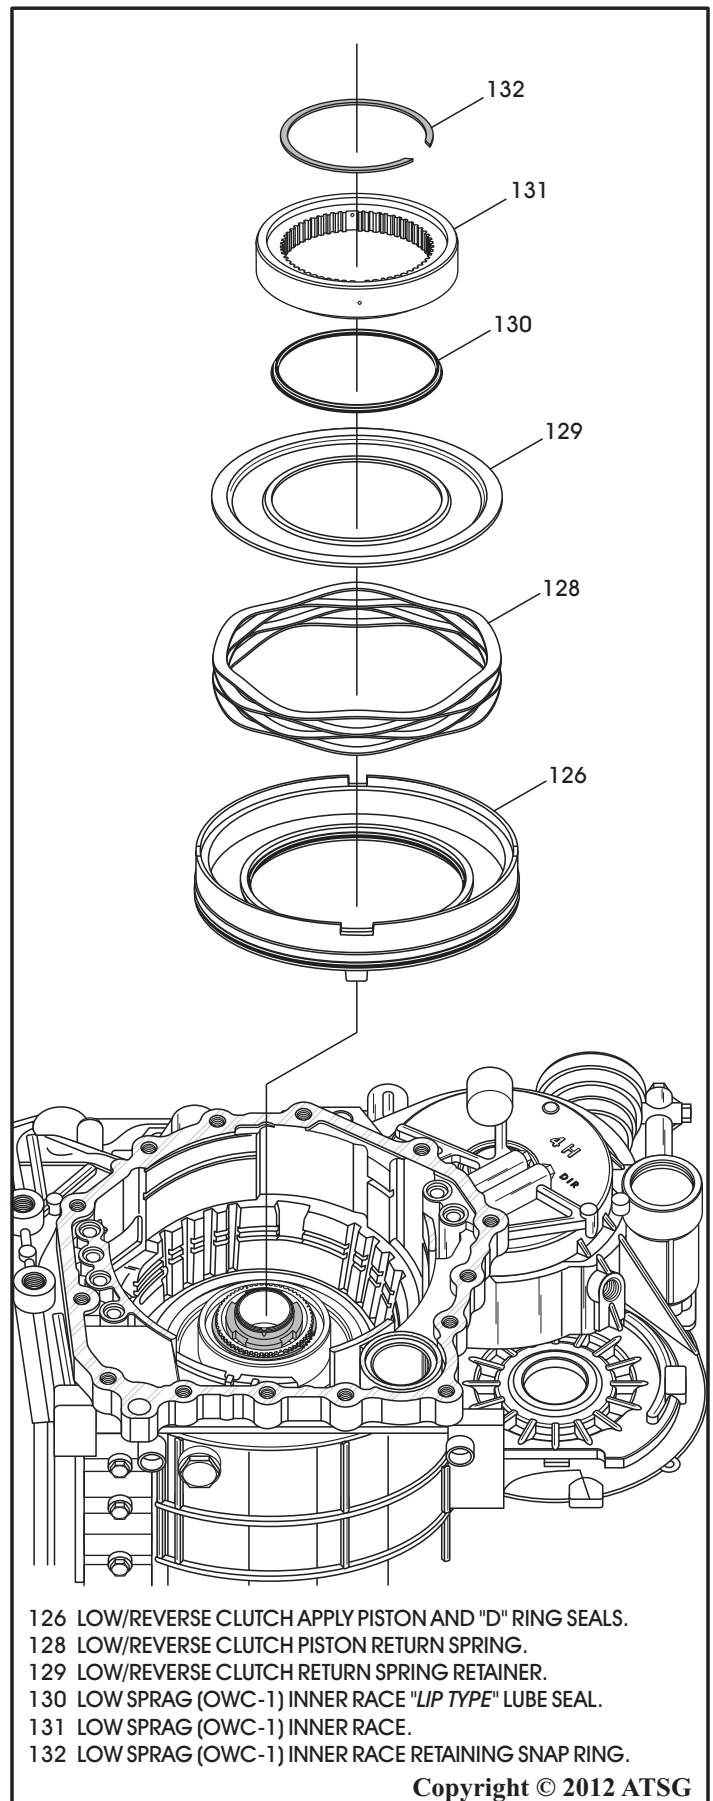

Figure 92
78. Remove the low sprag (OWC-1) inner race snap ring (132), as shown in Figure 92.
80. Remove the low sprag inner race (OWC-1), as shown in Figure 92, remove and discard the "Lip Type" seal on the back side of inner race.
81. Remove the low/reverse clutch return spring retainer, as shown in Figure 92.
82. Remove the low/reverse clutch piston return spring, as shown in Figure 92.
83. Remove the low/reverse clutch piston, as shown in Figure 92.